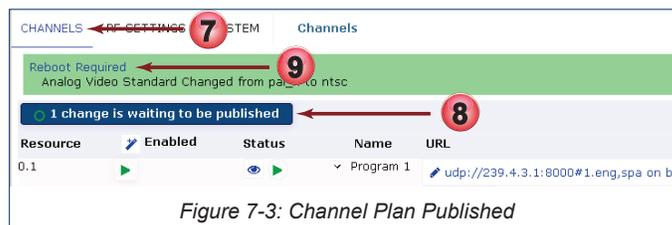

Figure 7-3: Channel Plan Published
7. It is necessary to **Publish** changes made to the Plan on the Channels page. Click the **Channels** tab, Figure 7-3.